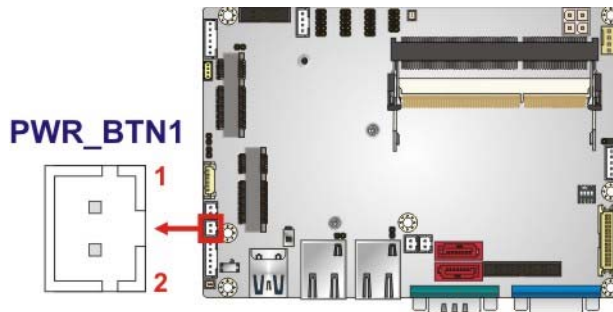

Figure 3-19: Power Button Connector Location
- CN Location:** See **Figure 3-19**